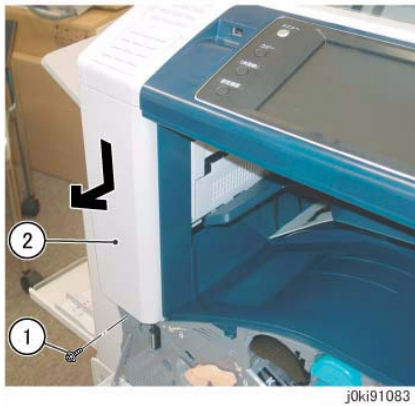

Figure 1 Remove the Front Left Cover
5. Remove the Front Left Cover. (Figure 1)